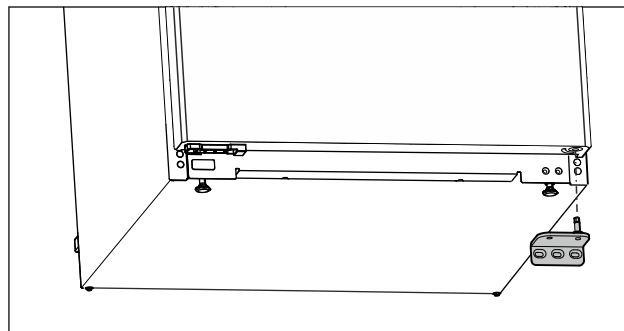

Fig. 8
- Remove the swap bearing block downwards. (see Fig. 8)